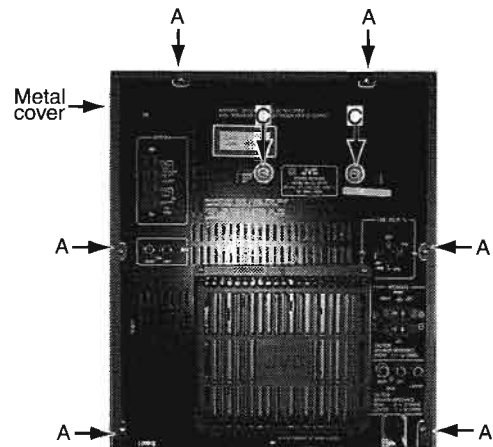

Fig 1
2. Remove the two screws C fastening the CD changer mechanism assembly to the rear panel of the main unit. (See Fig.1)